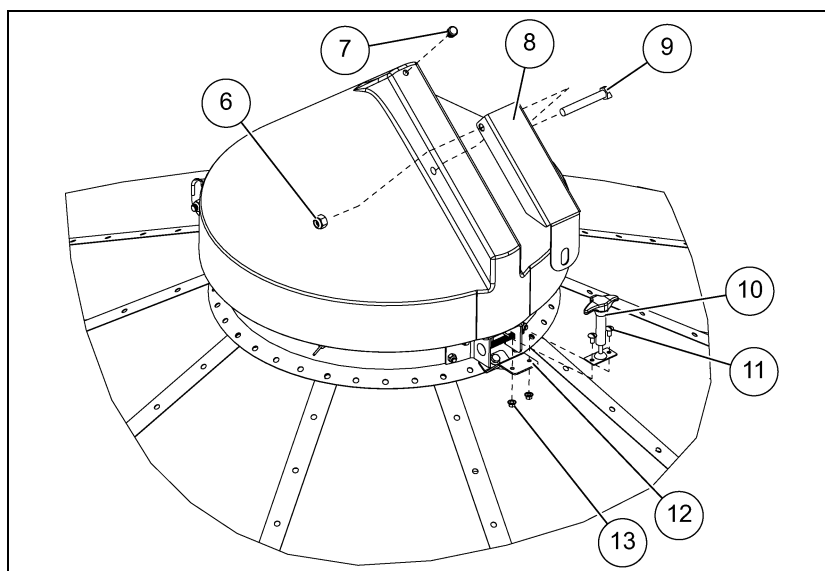

Figure 3
Install cap latch (10) components as shown in Figure 3 on Page 2. It may be necessary to remove the ground control arm if lid ground control has been previously assembled on the tank. Figure 4 on Page 3 shows the finished latched cap (10).